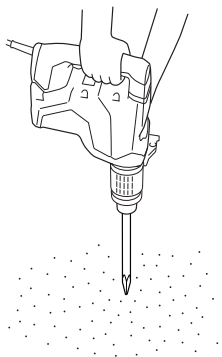

Fig. 12
- (1) Loosen the wing bolt, and insert the stopper into the mounting hole on the side handle.
- (2) Adjust the stopper position according to the depth of the hole and tighten the wing bolt securely.
6. Warming up (Fig. 12)